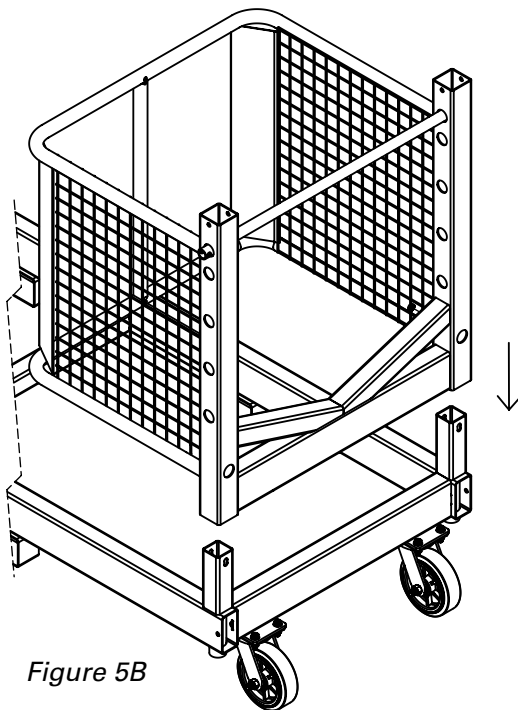

Figure 5B
2. Rotate the extension basket 180 degrees and slide it onto the base tubing uprights. (See Figure 5B).